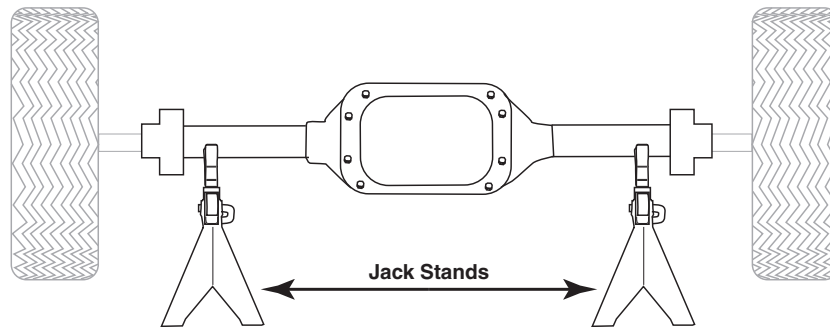

fig. 2
1. Raise the vehicle and support the axle with jack stands, setting the jack stands as wide as possible on the axle. And/or support the vehicle in a way (safely) that will allow the axle to be dropped if using a hoist of some kind (fig. 2).